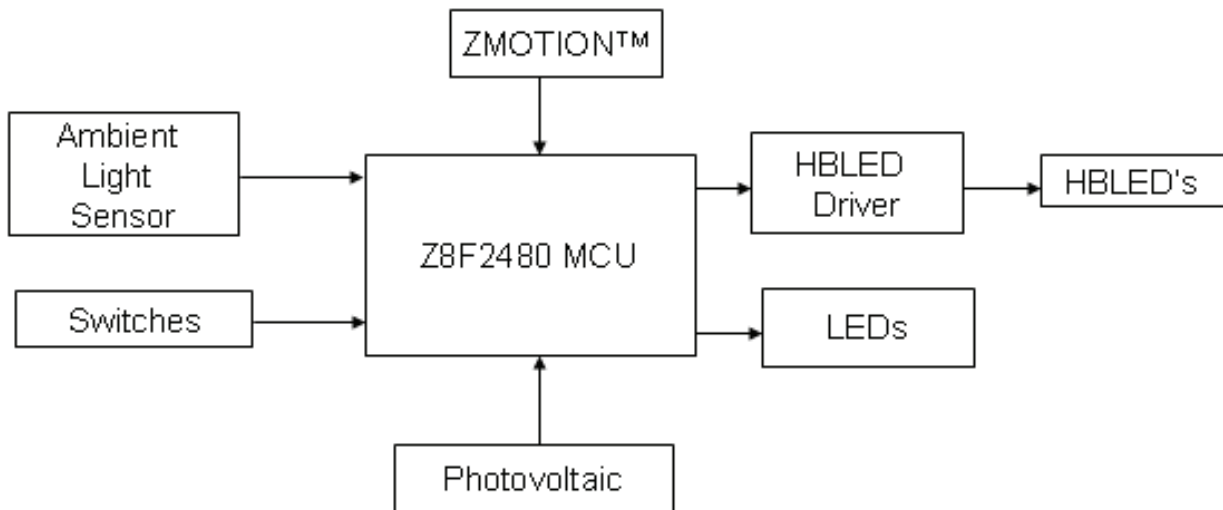

Figure 1: HBLED Driver Block Diagram
The Z8F2480 MCU acts as the main controller for this reference design. The block diagram on Figure 1 illustrates how ZMOTION™, ambient light sensor, switches, LEDs, photovoltaic, and HBLED driver are interface to Z8F2480 MCU. This MCU uses different peripherals to handle the devices connected to it. UART1 is used to receive information from ZMOTION™. Two (2) analog inputs are used to monitor light intensity of its environment through ambient light sensor (ANA2) and photovoltaic (ANA1). Four (4) GPIOs are used for switches, SW1 and SW2, (connected to PE0 and PE6) and 2 light emitting diodes, LED1 and LED2 (connected to PB5 and PB0). Two timers are used: Timer0 on continuous mode to monitor the desired time to turn off the HBLEDs after the last motion detected; and Timer1 on PWM mode with output on /T1OUT to control HBLED brightness through MXHV9910 HBLED driver.